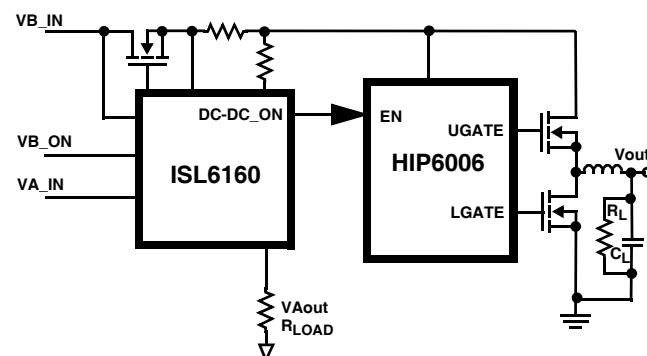

FIGURE 1. ISL6160EVAL2 BLOCK DIAGRAM
Intersil also provides the ISL6160EVAL2 concept evaluation platform. The ISL6160EVAL2 is a complete InfiniBand Class I (non isolated) power topology evaluation platform which highlights the operation of the ISL6160 and the HIP6006 single output PWM controller. See Figure 1 for a simplified block diagram of the ISL6160EVAL2 platform. This evaluation platform allows the InfiniBand Module (IM) power supply designer to evaluate the concept of this design and apply this concept to a specific IM power requirement. The evaluation platform is configured for 5V Vout and 3.5A max Iout capability where it exhibits an efficiency of 85%, all in a small 1.6 sq" area. See Figure 11 for a complete ISL6160EVAL2 schematic.